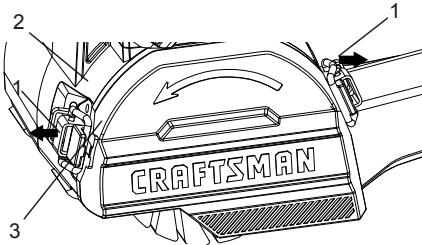

Fig. 1
1. Lift the two roller end cover hasps (1) away from the main housing (2) (Fig. 1).
1. Unlatch the roller end cover (Fig. 1).